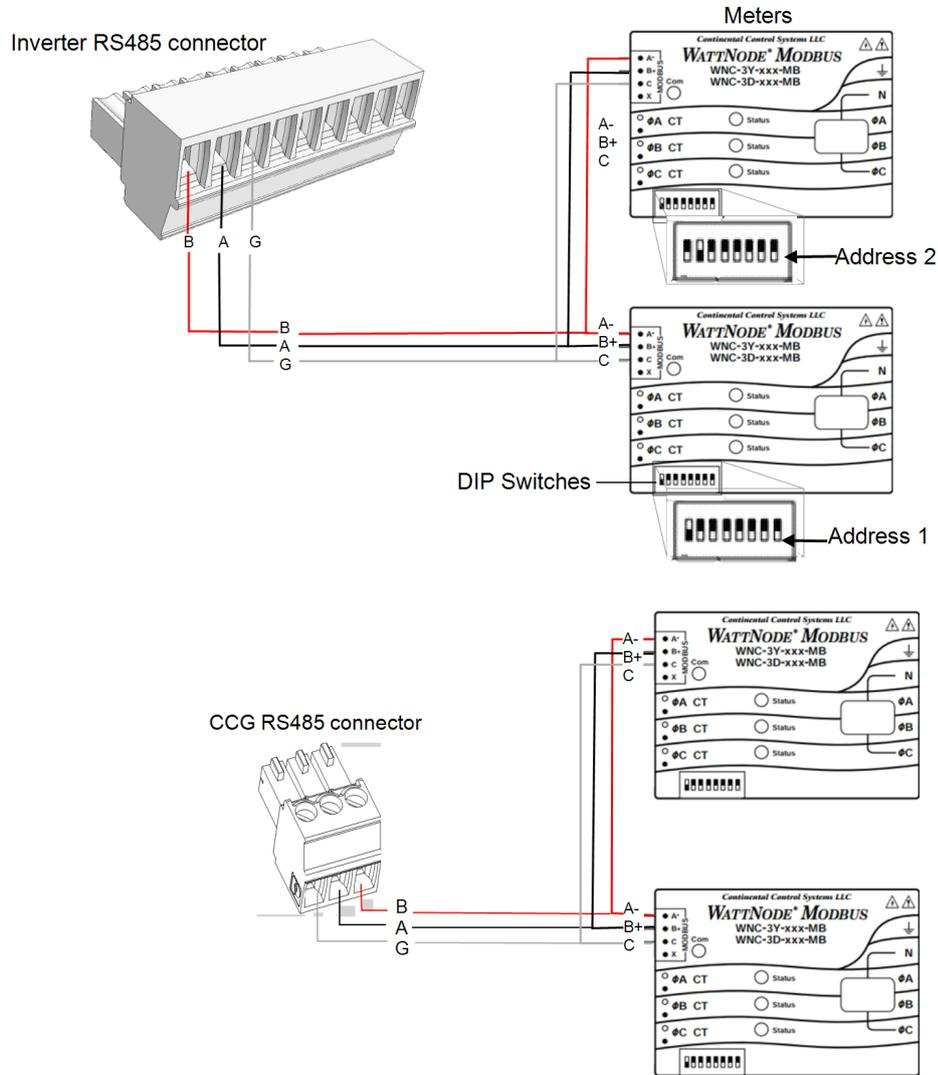

Figure 16: WattNode meters connection to the inverter and CCG RS485 connector
1. Connect the twisted pair of wires to the meters as shown in *Figure 16*.